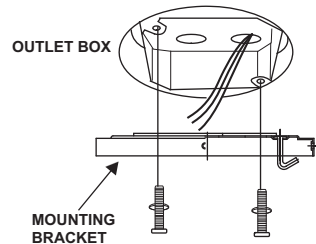

Fig. 4
**Step 1.** Attach the mounting bracket to the outlet box with two screws and washers provided with the outlet box. Make sure the bracket is tight and secured (Fig. 4).